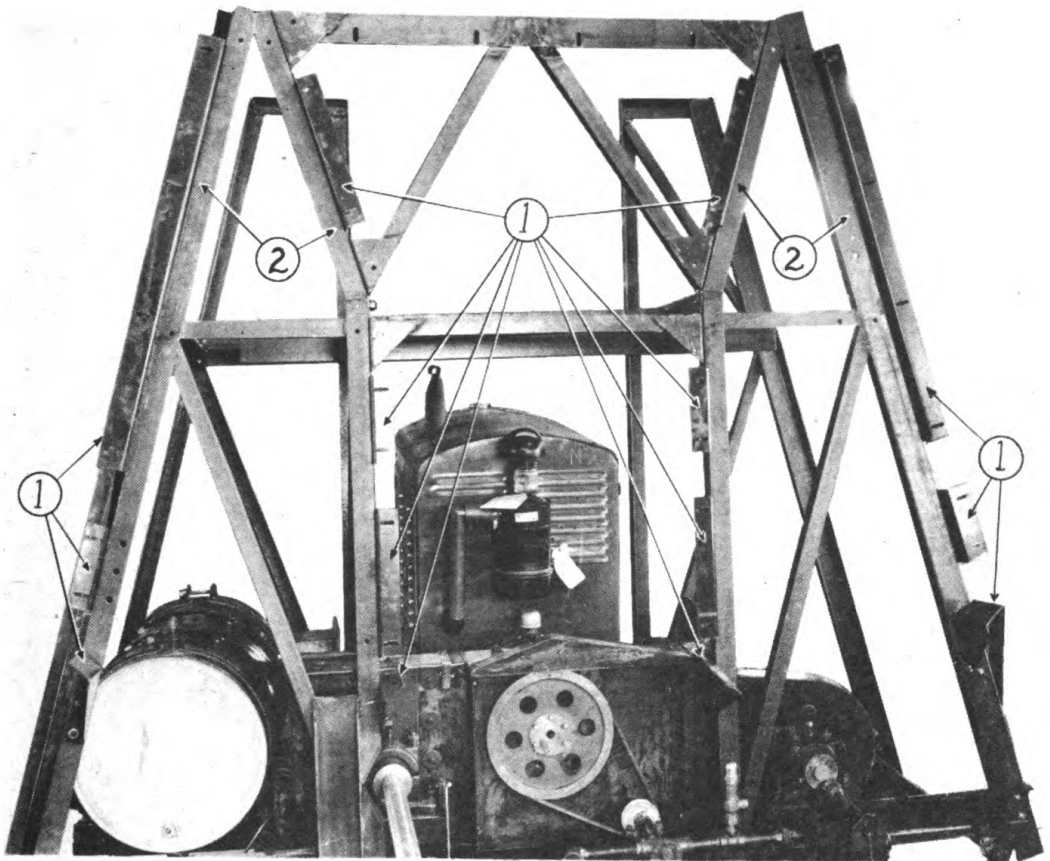

FIGURE 111
The stack bases can be moved in six directions namely; up and down, sideways and forward and back. Assume the drum is contacting the stack base near top of stack base opening, it would be necessary to raise the stack base to correct this condition. Further, if drum was contacting the stack at base of opening it would be necessary to lower stack base. All adjustments of stack bases are made possible by means of slotted bolt holes in the members that support the stack bases. Figure 111 shows the various angles (1) to which the stack bases are secured. Note the slotted bolt holes in the angles. These stack base support members are secured to the Dryer super structure (2) which also has slotted bolt holes. This combination of slotted holes make possible the adjustments mentioned above.